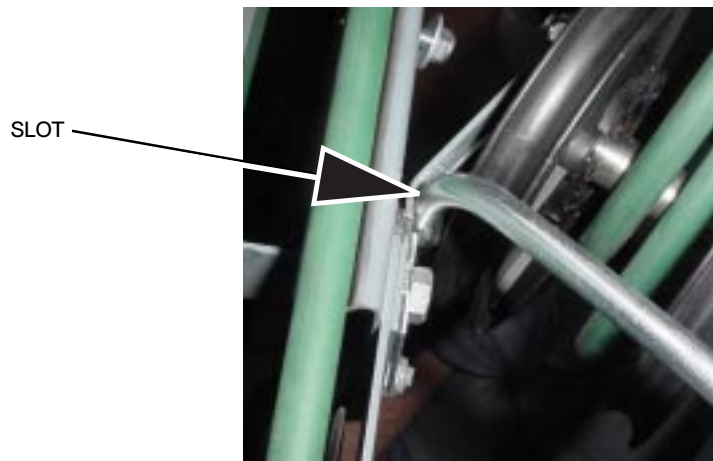

Figure 7
5. Seat guide bracket in slot. Refer to *Figure 7*.